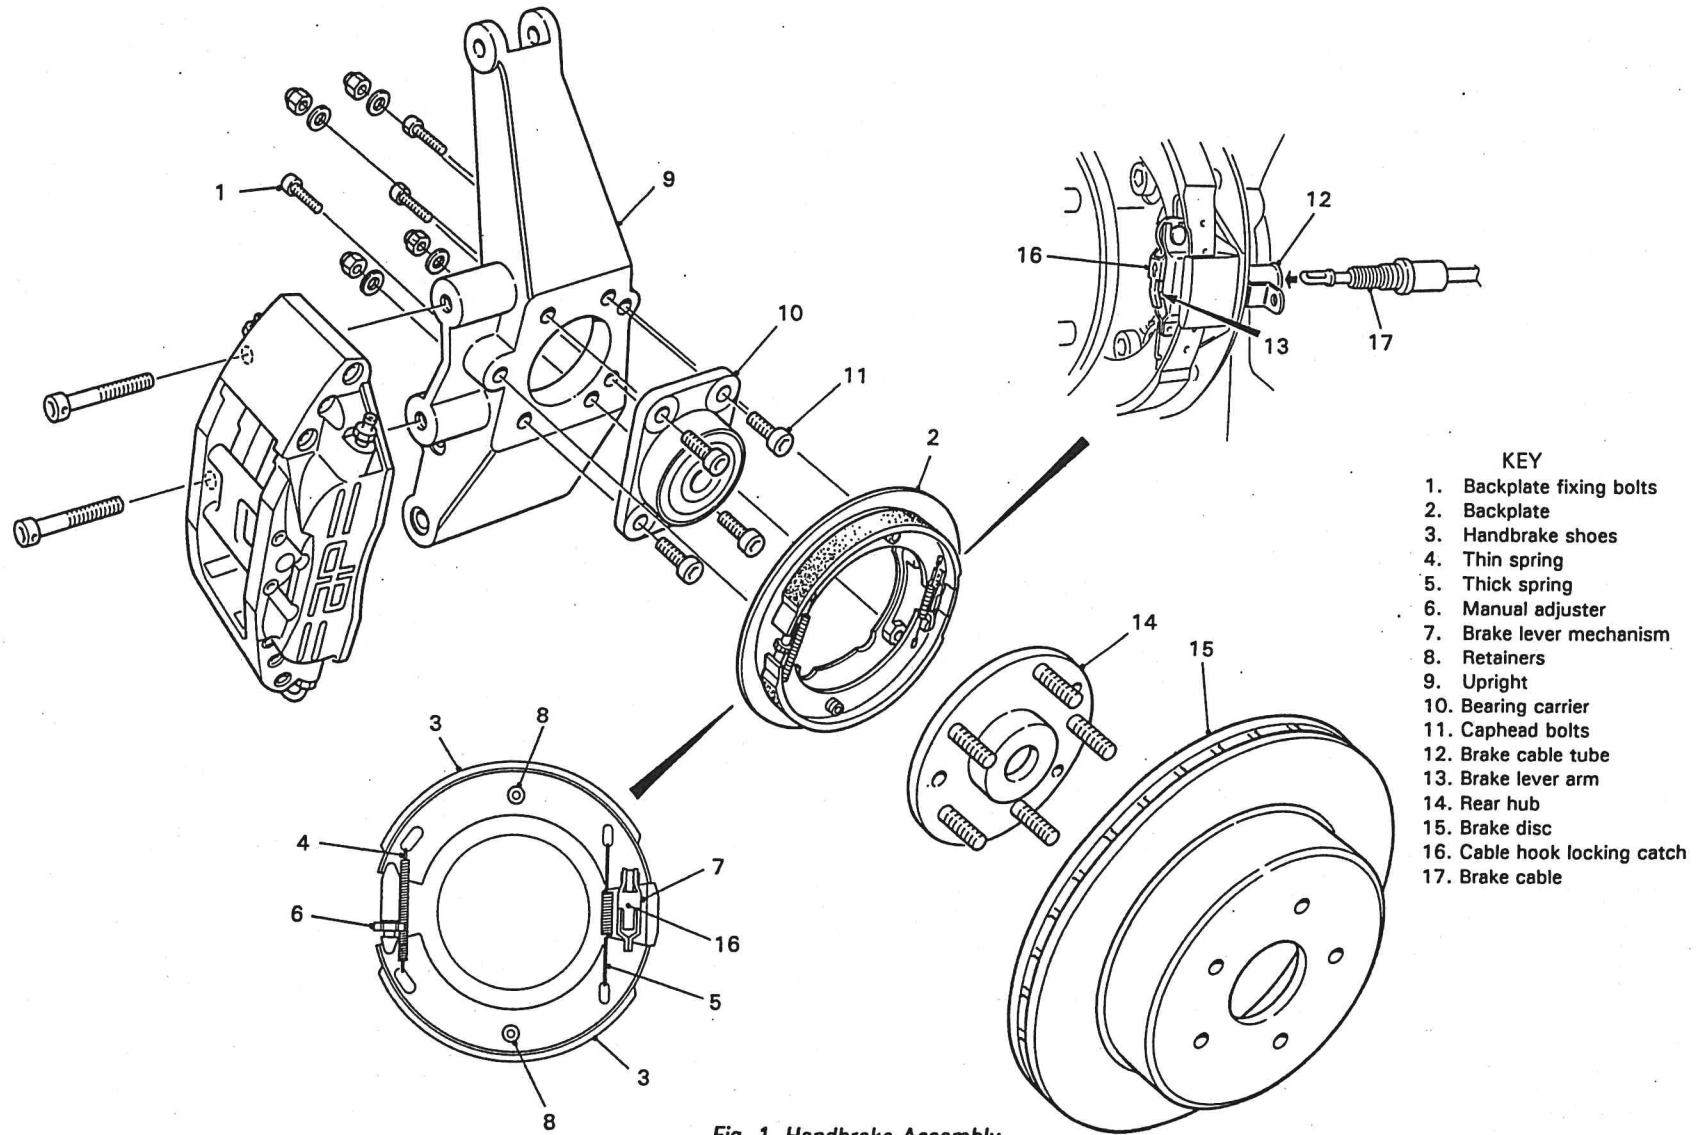
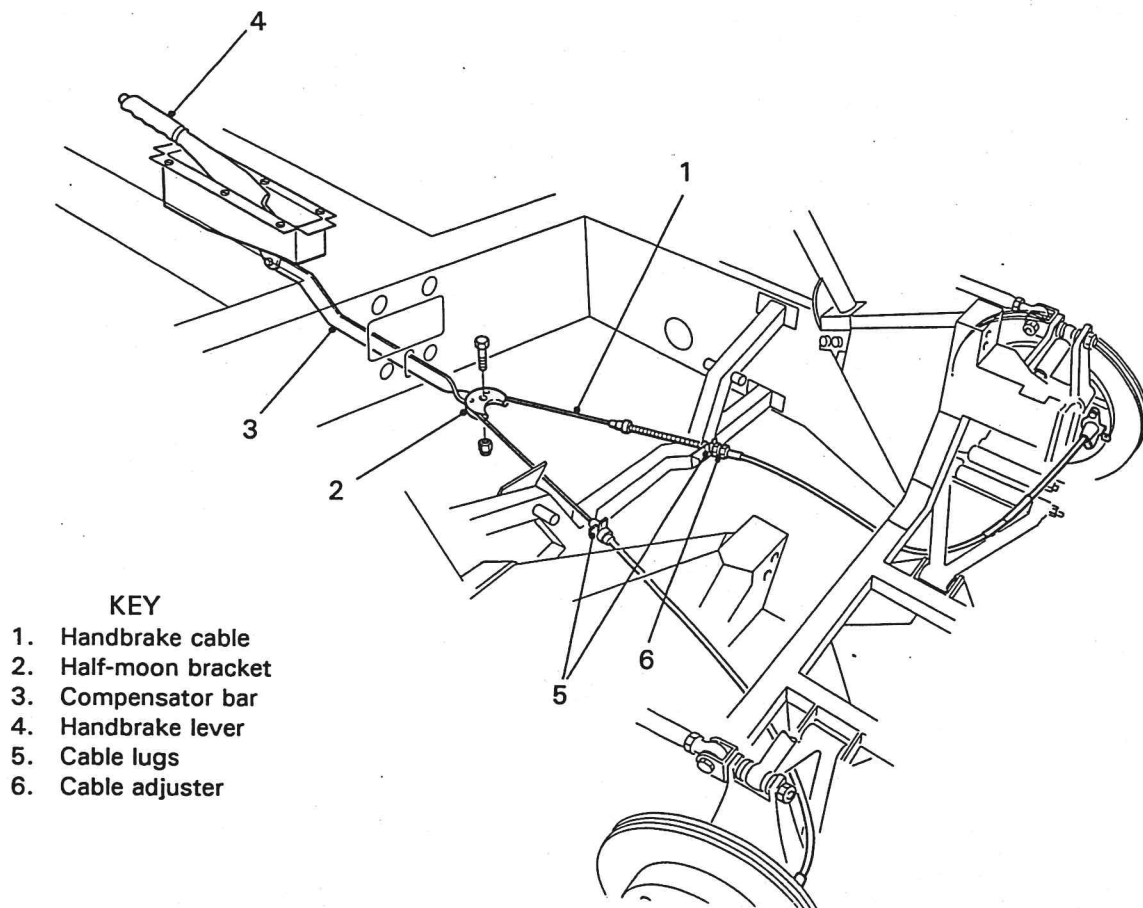

Fig. 1 Handbrake Assembly
Fig. 2 Handbrake Lever, Compensator Bar and Cable Assembly
1. (Refer to Fig. 1 Handbrake Assembly). The handbrake backplate (2) should be cut away where necessary so that it can be bolted direct onto the hub carrier (upright) (9). Also remove the outer ring of the backplate. Later versions supplied will already be modified.
2. The handbrake lever mechanism casting (7) is supplied assembled to the backplate.
3. Fit the backplate direct to the assembled upright (9), it fits around (clears) the bearing carrier (10) (refer to Rear Suspension Module 07). Insert three M10 x 55mm bolts (1) through the upright and screw into the captive nuts on the backplate to secure it in place. Tighten to torque.
4. Take the two brake shoes (3) and position them on each side of the handbrake lever (7). Attach the thick coiled spring (5) between the shoes in the pair of holes nearest to the lever, this clamps the shoes in place.
6. Position the manual adjuster (6) between the shoes on the opposite side to the handbrake lever.
7. Attach the thinner coiled spring (4) between the shoes in the pair of holes nearest to the adjuster (6).
8. The shoes are held in place against the backing plate using quarter-turn shoe retainers (8) and a spring located in the middle of each shoe.
9. (Refer to Fig. 2 Handbrake Lever, Compensator Bar and Cable Assembly). The handbrake cable (1), with a half-moon bracket (2) in the centre, is connected to the compensator bar (3) coming down the tunnel from the handbrake lever (4). The half-moon bracket is bolted to the compensator bar using an M8 x 35mm bolt and nyloc nut with washers under the head of the bolt and under the nut.
10. Feed the wires to each brake through the lugs (5) on the cross member of the chassis. The right-hand lug adjuster (6) is used to vary the overall length of the cable and thereby adjust the handbrakes
11. (Refer to Fig. 1 again). Lift the catch (16) on the handbrake lever. Insert the brake cable (17) into the tube (12) behind the backplate and hook onto the brake lever arm (13). Lower the catch to lock the brake cable hook onto the lever arm.